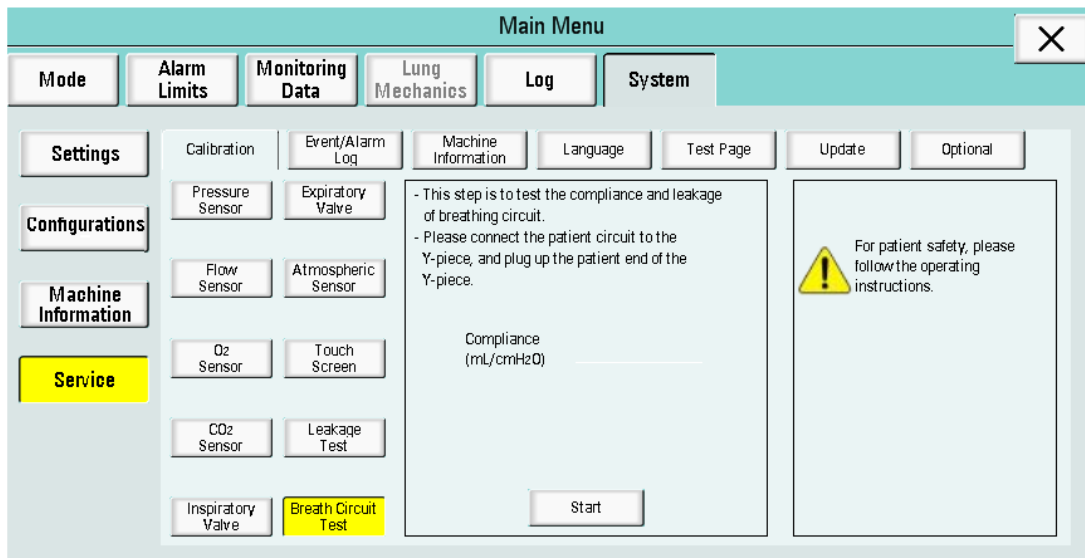

Figure 6-72
(10) Breath Circuit Test Calibration: Click “Breath Circuit Test” to enter the test interface. A message is displayed: “This step is to test the compliance and leakage of breathing circuit. Please connect the patient circuit to the T-piece, and plug up the patient end of the T-piece”, as shown in Figure 6-72.